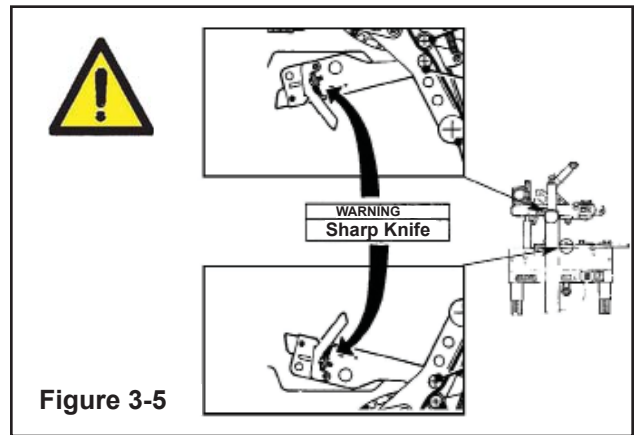

Figure 3-5
- **Important :** Never remove the safety device which covers the blade on the top and bottom taping units. Any error may cause serious injuries (Figure 3-5).